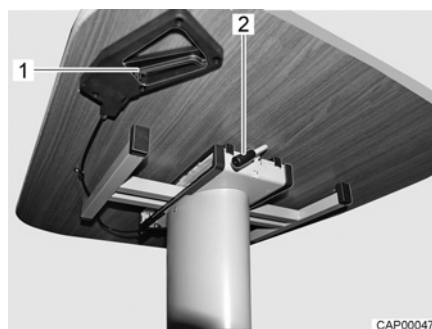

Fig. 43 Moving the lift-off table
- Swivel lever (Fig. 43,2) downwards until it is in a downward vertical position.
- Swivel lever (Fig. 43,2) upwards until the table top is fastened.
- Pull the locking handle (Fig. 43,1).
- Release the locking handle (Fig. 43,1). The table top remains at the adjusted height.